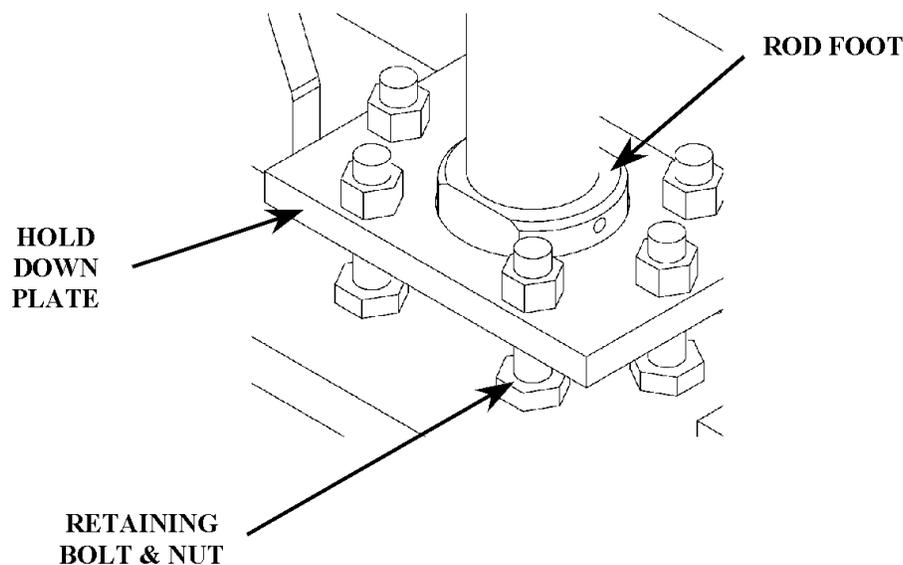

FIGURE 2 – retaining plate assembly
- The rod foot needs to be centered within the hold down plate. See figure 2.
4. The retaining nuts may appear to be loose. Do not over tighten the nuts on the retaining bolts (shown in figure 2). There may appear to be a gap between the rod foot and the top jaw beam. This is natural. Only the cylinder shaft should be pushing against the top jaw, not the rod foot. The system is designed to allow the rod foot to adjust to any misalignment with the top jaw.